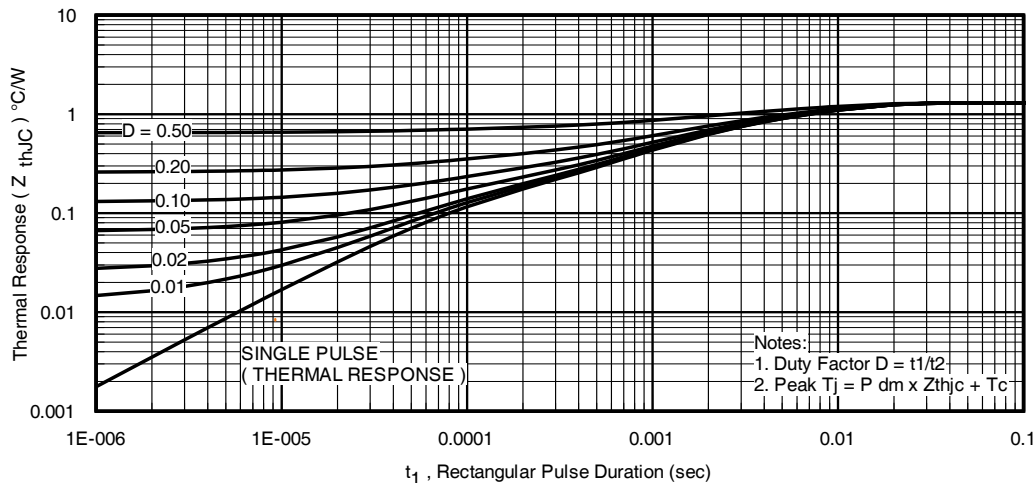

Fig 14. Maximum Effective Transient Thermal Impedance, Junction-to-Case
7. ΔT = Allowable rise in junction temperature, not to exceed T_{jmax} (assumed as 25°C in Figure 14, 15).